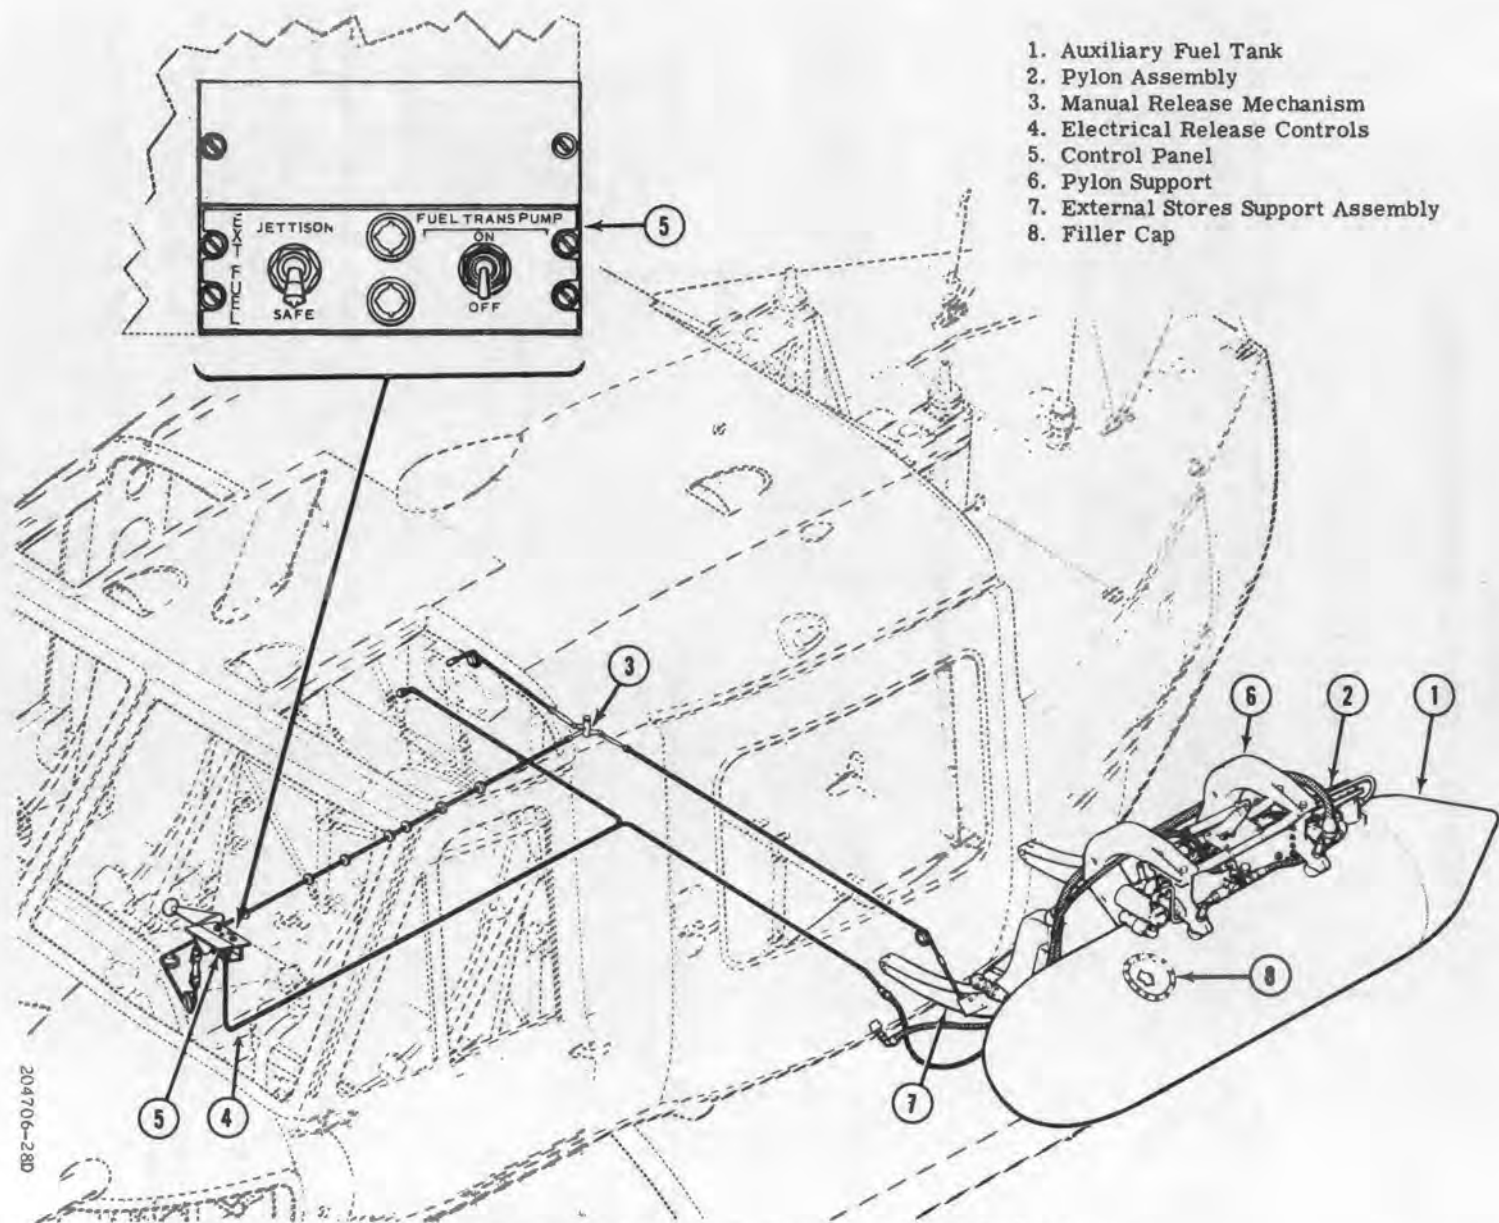

Figure 15-1. 60.0 U.S. gallon auxiliary fuel system
15-3. 60.0 U. S. Gallon External Auxiliary Fuel System (UH-1B). Two 60.0 U. S. gallon capacity external auxiliary fuel tanks (1, figure 15-1) may be installed on UH-1B helicopters, Serial No. 62-1872 and subsequent. Each of these tanks is attached to a pylon assembly (2), from which they may be simultaneously released by either manual (3) or electrical (4) means. When the tanks are jettisoned all hoses and electrical cables are automatically disconnected. Hoses have poppet type disconnects that immediately seal them off. Mechanical jettisoning of the fuel tanks is accomplished by activating the mechanical jettison lever mounted on the right-hand side of the instrument pedestal. Electrical jettisoning is accomplished by placing the "JETTISON-SAFE" switch on the instrument pedestal control panel (5) in the "JETTISON" position. Fuel in the tanks is forced into the main fuel system by means of an air pressurization system which is protected by a pressure regulator. Air for this system is provided by a pump on each pylon assembly (2) and the system is interconnected so that if one pump fails the other will still supply the required pressure. The pylon assemblies (2) are attached to pylon supports (6), which, in turn,
15-7. External Auxiliary Fuel Pylon (UH-1B). The pylon assemblies are attached to the pylon supports (6, figure 15-1) on both sides of the helicopter, and contain the pylon hooks to which the fuel tanks are attached. An air pump (6, figure 15-3) is mounted on the forward end of each pylon, and an air pressure regulator (7) is located at the approximate center on the outboard side. Fuel, air and electrical lines and cabling are also a part of each pylon assembly.
c. Remove cotter pin and pin attaching cable guard tube (12) to support assembly (13) on top of external stores support assembly. Carefully disengage cable guard tube (12) from support assembly (13), and withdraw manual release cables from lower guard tubes. Remove cotter pin, washer and flat head pin (14) attaching upper end of manual release cable to pylon assembly.
d. Support pylon assembly and remove nuts, washers and bolts attaching pylon assembly to pulley support tubes (15) and pylon support (6, figure 15-1). Remove pylon assembly. Remove pulley support tubes (15, figure 15-3) with support, cable guard tube (12) and manual release cables still attached.
15-9. Installation — External Auxiliary Fuel Pylon (UH-1B). a. Position the pulley support tubes (15, figure 15-3) (with support, cable guard tube (12) and manual release cables attached) and pylon assembly to the pylon support (6, figure 15-1) and install attaching bolts, washers and nuts.
15-10. External Auxiliary Fuel Pylon Support (UH-1B). The pylon support is a heavy duty aluminum alloy casting. It is attached to the external stores support assembly (7, figure 15-1) and supports the pylon and fuel tank.